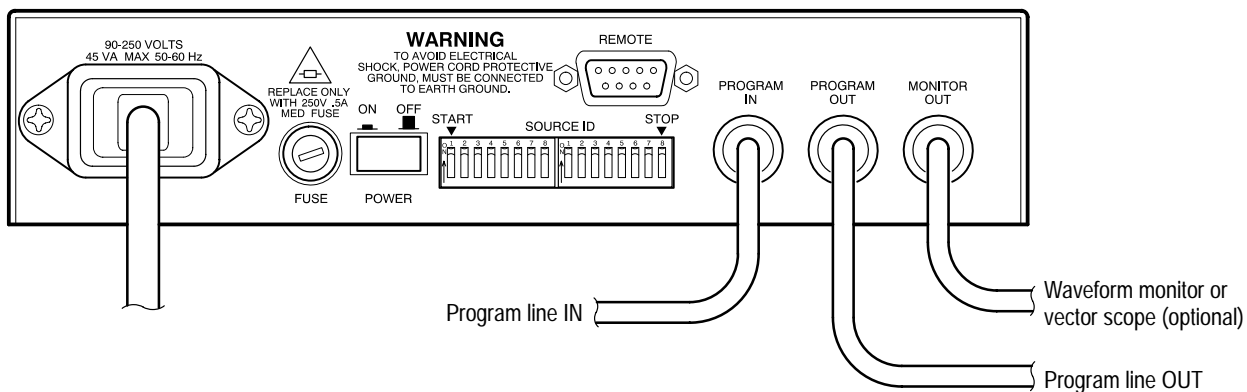

Figure 1-2: A typical installation
2. Connect the VITS inserter to your system as shown in Figure 1-2.